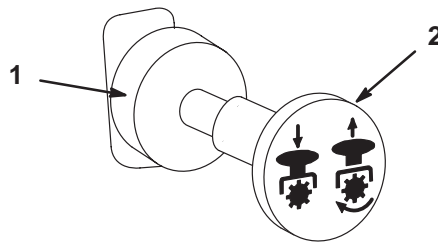

Figure 17
3. Pull out on the power take off (PTO) switch to engage it (Fig. 17).